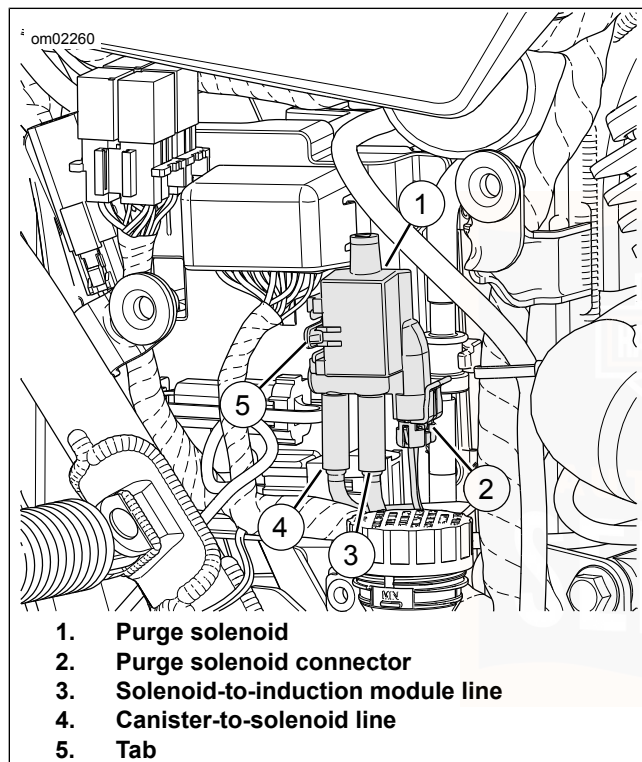
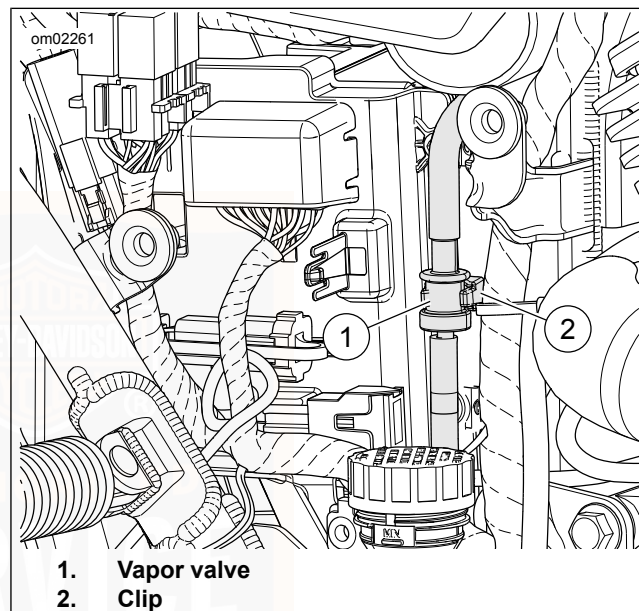

Figure 44. Purge Solenoid
Figure 45. Vapor Valve
4. **For California, Asia-Pacific, England, HDI and India models only:** See Figure 44. Remove purge solenoid.
- a. Disconnect purge solenoid connector (2).
- b. Remove solenoid-to-induction module and canister-to-solenoid lines (3 and 4) from purge solenoid (1).
5. See Figure 45. Pull vapor valve (1) from clip (2).
10. See Figure 45. Press vapor valve (1) into clip (2).
11. **For California, Asia-Pacific, England, HDI and India Models Only:** See Figure 44. Install purge solenoid.
- a. Install purge solenoid (1).
- c. Connect purge solenoid connector (2).